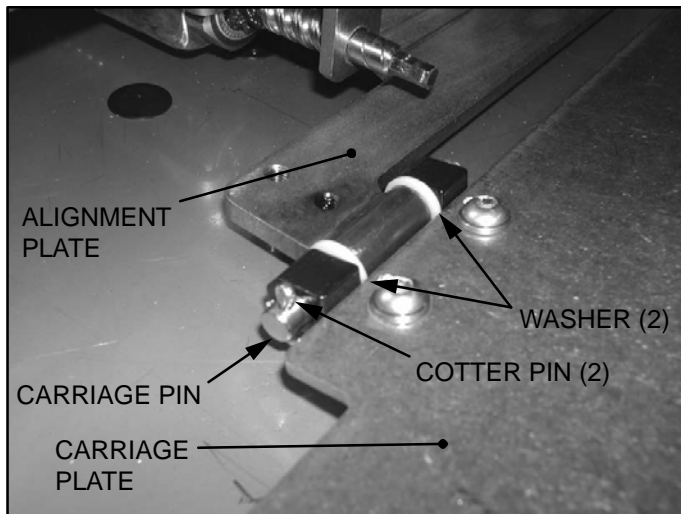

FIGURE 4-22: CARRIAGE PIN
- l. Refer to **Figure 4-22**. Remove two cotter pins from each end of carriage pin.
- c. Refer to **Figure 4-22**. Slide carriage pin through alignment plate and two washers.
- d. Refer to **Figure 4-22**. Slide two cotter pins through each end of carriage pin.